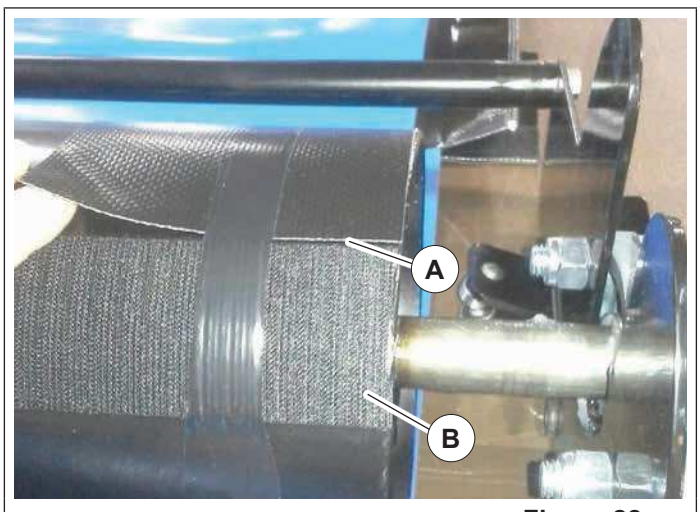
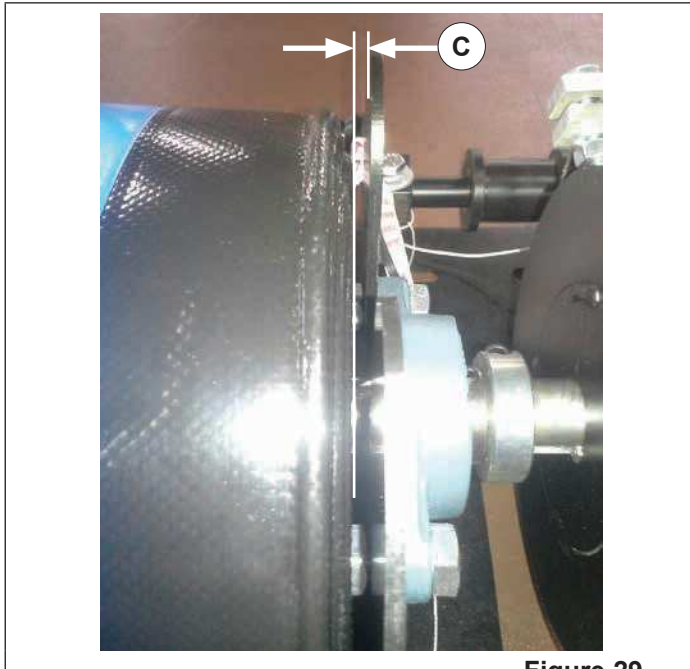
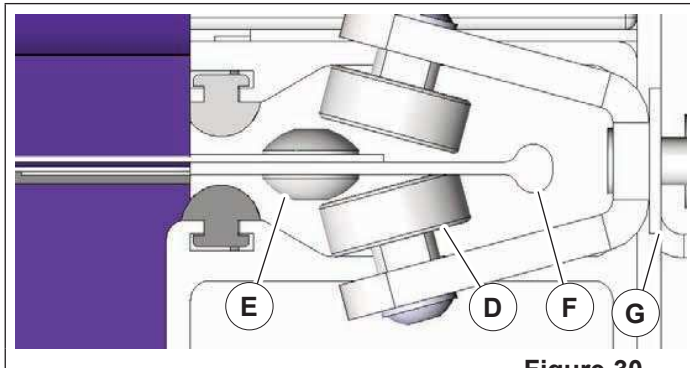

Figure 28
Figure 29
Figure 30
5. To shim the curtain, place the door in the closed position, unwind the curtain to where it is attached to the hook and loop on the roll tube and place a piece of fabric at the edge of the roll tube on the side where the curtain is telescoping inward (Figure 28). Place shim(s) on one side only.
7. Once shimming is complete, the curtain should track as shown in "Figure 30". Distance from inside edge of plate to bulb can be 1/4in - 3/4in [6mm - 19mm]. See dimension (C) (Figure 29).
8. See note attached to the rollers. "Figure 30" shows the ideal button and edge clearance.
9. Verify rollers (D) spin free, buttons (E) and curtain bulb (F) are not tight against roller. (G) refers to shim in place. If tight, refer back to "Figure 28" on page 20 and "Figure 29".